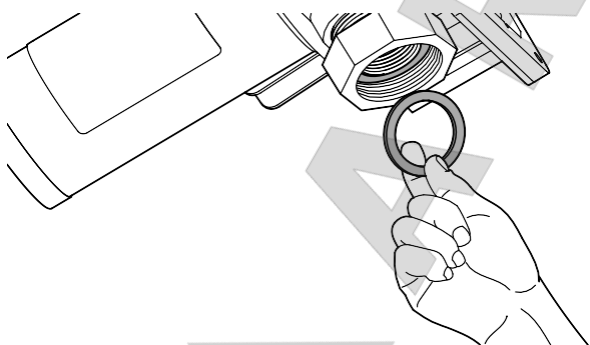

Figure 2
Using pliers, remove the plastic plug from inlet port on bottom of pump. **Note: For EZ-8 models with Spin Collar, place the spin collar gasket (C) into the inlet fitting on bottom of pump (see Figure 2).**